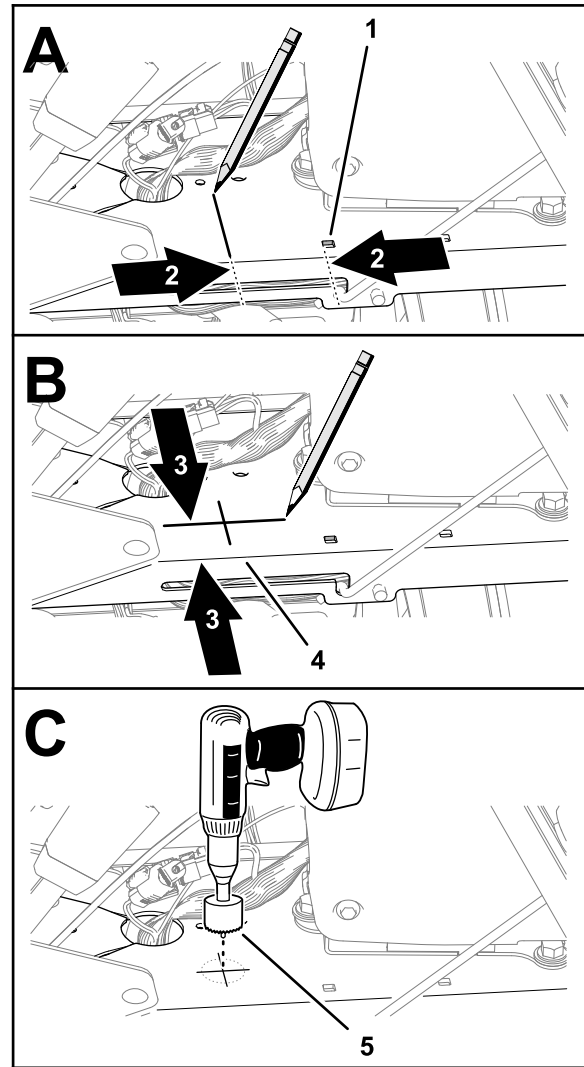

Figure 37
3. Measure 69 mm (2-11/16 inches) rearward from the square hole near the prop-rod slot in the console base, and mark the console base (Figure 37).
4. Measure 45 mm (1-3/4 inches) inward from the slotted flange of console base, and mark the console base (Figure 37).
6. Drill a hole in the console base at the centerpunch mark with a 32 mm (1-1/4 inches) drill bit (Figure 37).